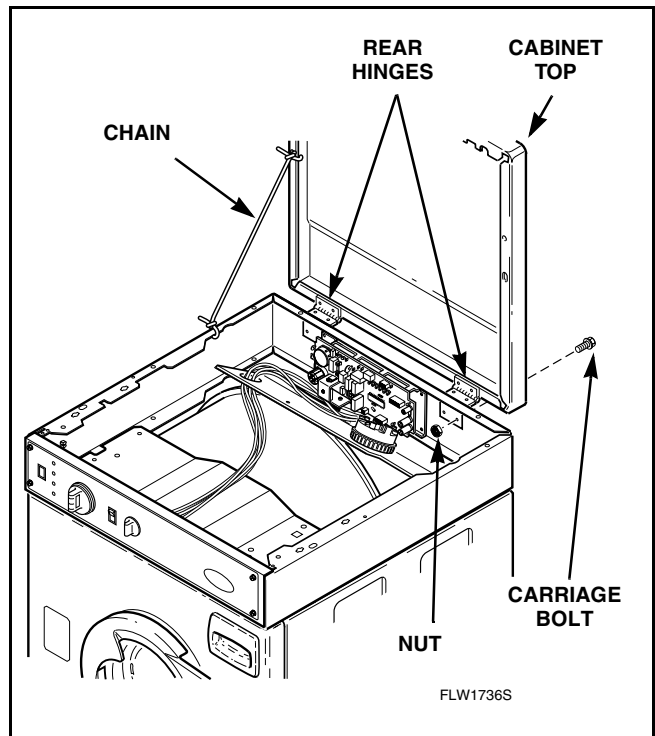

Figure 5
NOTE: To avoid damage to hinges, be sure to support top with a chain (not included) or equivalent. Refer to *Figure 5*.
- d. Remove cabinet top from washer by removing nuts and carriage bolts holding cabinet top and hinges to control cabinet. Refer to *Figure 5*.